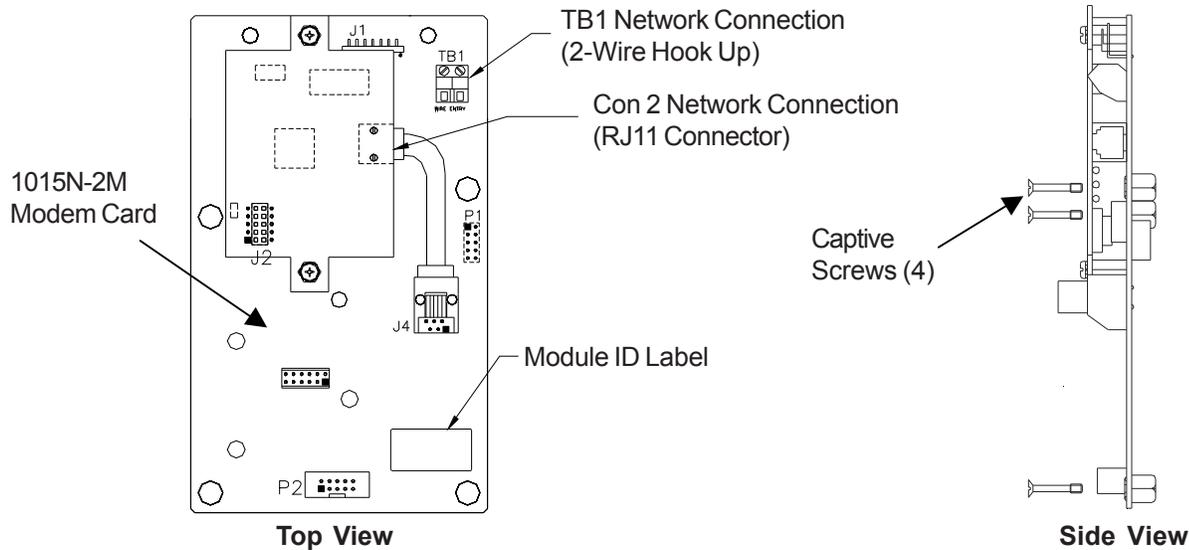

Figure 1. 1015N-2M Modem Card and Attaching Hardware
1. Referring to Figure 1, open the 1010 NEMA flowmeter top cover by releasing the cover latch.